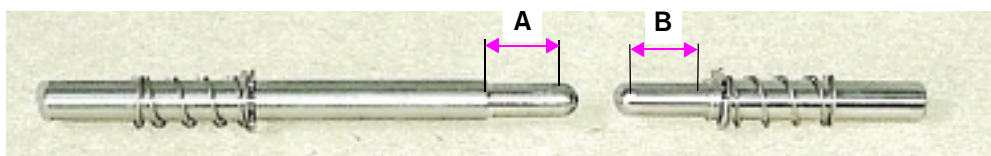

Fig. 1: Sliding area of the interlock pins
- Inspect the sliding area of the interlock pins (**A** and **B** see Fig. 1:). If there are visible signs of wear, replace the interlock pins.
- Apply a thin layer of Molykote grease on the sliding surface of the interlock pins (**A** and **B** see Fig. 1:).